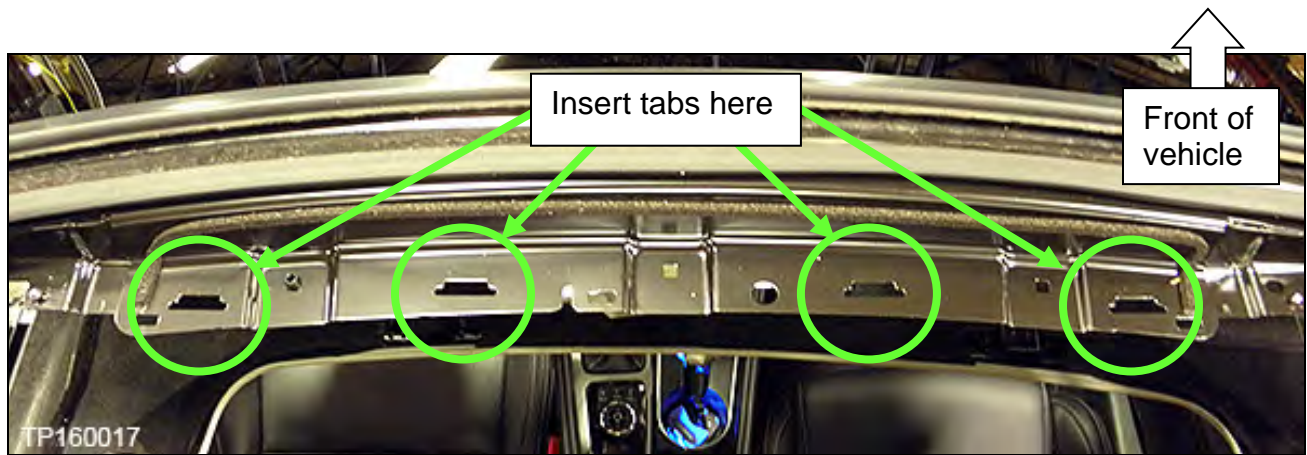

Figure 22
4. Insert the four tabs of the wind deflector into the Moonroof frame (Figure 22).